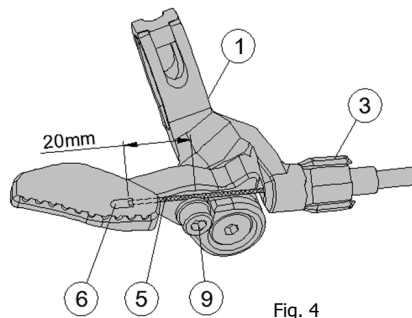

Fig. 4
10. Slide Cable ⑤ into remote lever Barrel adjuster ③. Use 3mm hex wrench to loosen Remote clamp bolt ⑨. (Fig. 4)
11. Install Cable ⑤ under Remote clamp bolt ⑨. Use 3mm hex wrench to tighten Remote clamp bolt ⑨ to 15 kgf.cm / 1.5 Nm / 13 in.lbs. (Fig.4)
12. Check that cable housing is completely seated in Barrel Adjuster ③ at remote. (Fig. 4)
13. Cut cable leaving 20mm of cable past Remote clamp bolt ⑨. (Fig. 4)
14. Install Cable end cap ⑥ and bend cable end into cable holder. (Fig. 4)
15. Use Barrel adjuster ③ to adjust cable tension so that remote lever has no free play. (Fig. 4)